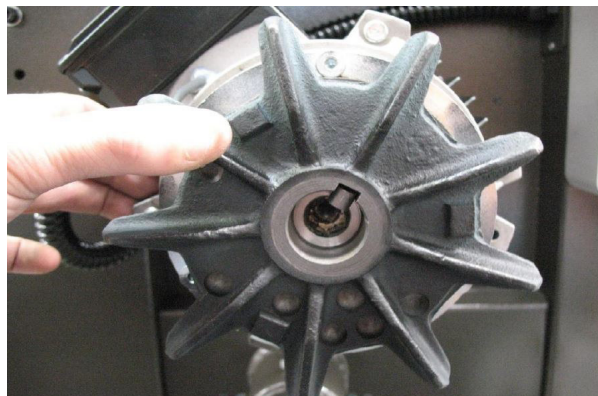

Fig. 27: Place fan wheel on shaft
Step 5: Connect the fan wheel to the shaft. Observe the correct position of the key and keyway (Fig. 27).